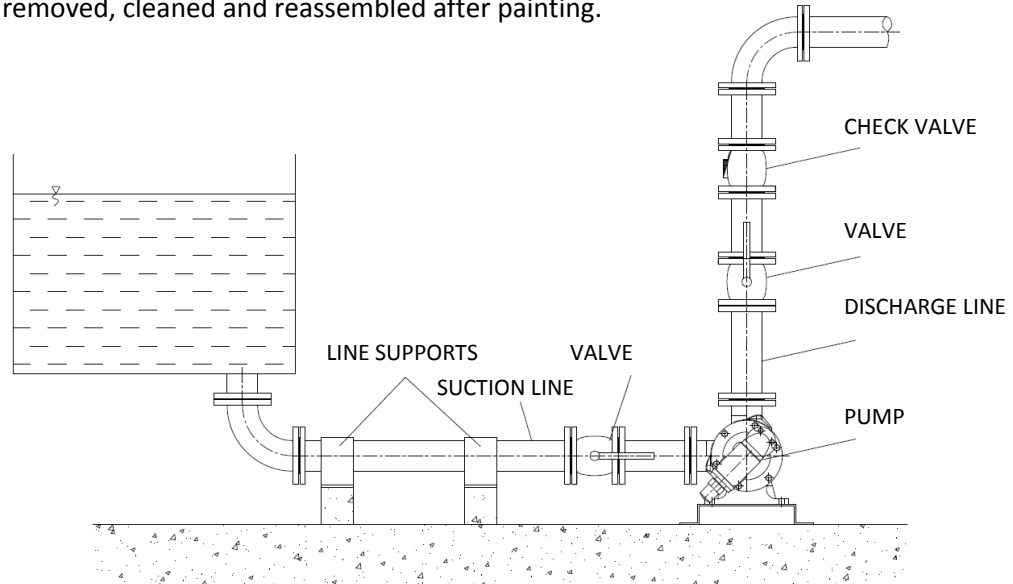

Figure 6. Pipeline supporting points
- Pipe lines should be supported from all points near to pump (See **Figure 6**). After making all piping assembly, check if suction and discharge pipelines are applying any tension on flanges of the pump; by loosening bolts.